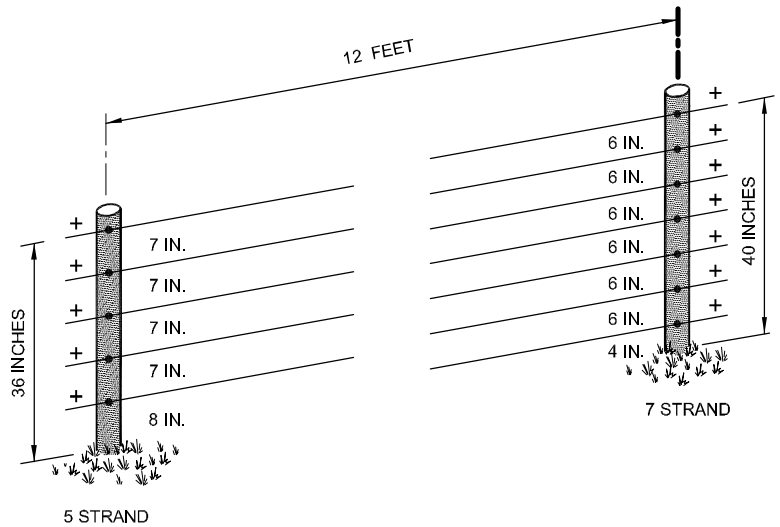

Figure 4 Permanent / Temporary Electric Bear / Beehive Fence
Bears cause hive damage if allowed free access, especially upon emerging from hibernation or in early fall prior to hibernation. Electric fences can be effective in protecting hives when properly constructed and maintained. A design is shown in Figure 4 using 5, all electrified wires. Permanent or temporary posts may be used, depending on the hive site. For temporary sites, an option is a net fence fabric of poly wire with attached posts. See page 4 of Factsheet 307.100-1.
- The electric fence design in Figure 4 has all wires electrified and an earth return system (see page 1 of Factsheet 307.320-1). This limits its effectiveness to conditions of moist ground, unfrozen ground and no snow cover.